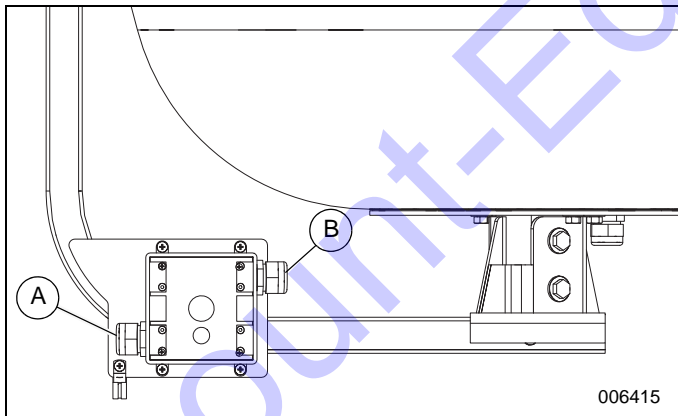

Figure 13. Cable Installation
9. See **Figure 13**. Install coil-cord through lower strain relief (A). Verify enough wire is in junction box to connect to WAGO connectors, then tighten strain relief.
9. See Figure 13. Install coil-cord through lower strain relief (A). Verify enough wire is in junction box to connect to WAGO connectors, then tighten strain relief.
10. See Figure 13. Install light fixture cord through upper strain relief (B). Verify enough wire is in junction box to connect to WAGO connectors, then tighten strain relief.